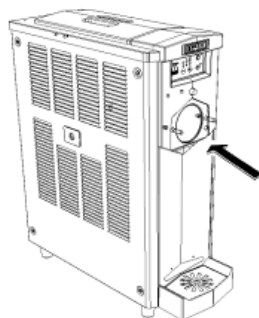

Fig. 48
- Wash the freezing cylinder and top tank thoroughly, removing any remaining product with a clean sponge soaked with the sanitizing solution making sure to completely wet all surfaces for at least 60 seconds. Let air dry. Follow local health ordinances (see Fig. 48).
- Spray sanitizer on all these surfaces leaving it as suggested by the manufacturer (see Fig. 48).